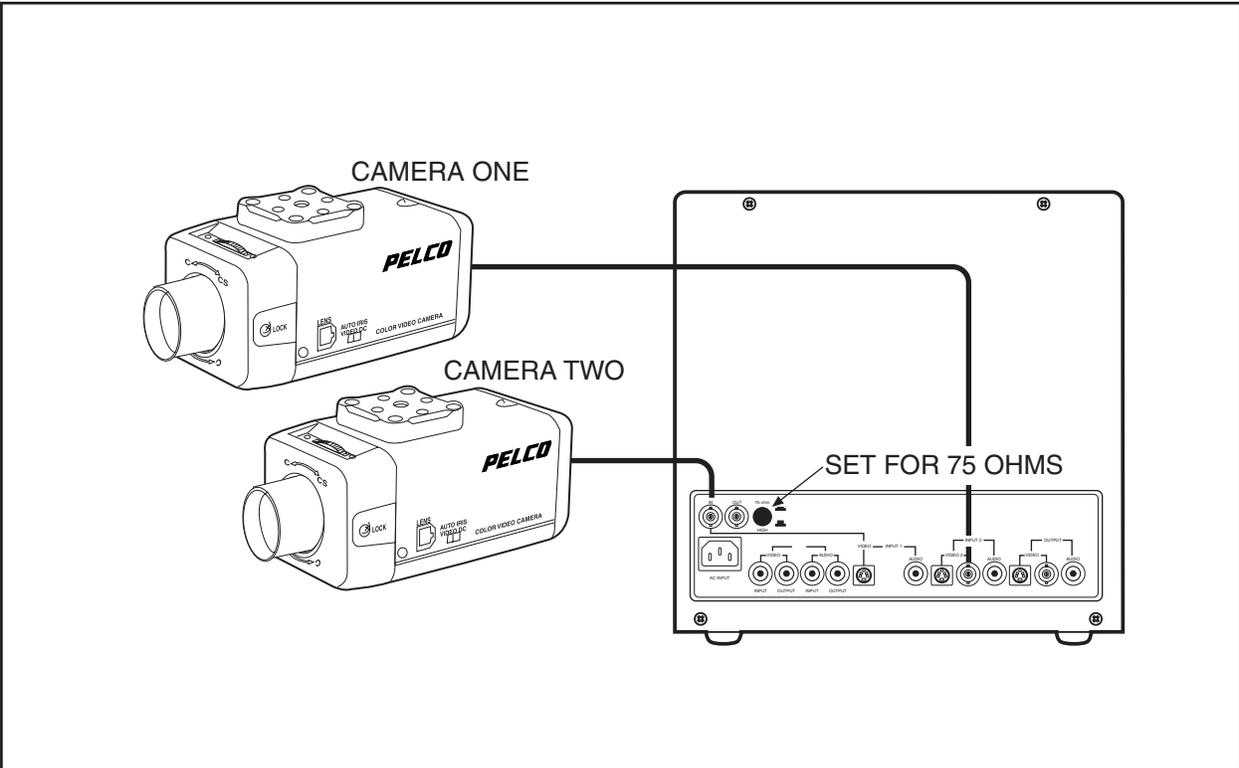

Figure 2. Camera Inputs
1. Refer to Figure 2. Connect cameras and audio equipment to the inputs 1 and/or 2. Note that each input has two video connectors: a BNC connector for a standard composite video signal and a four-pin jack for a Y/C signal input. The Y/C input provides luminance (Y) and chrominance (C) signal input from Super VHS equipment.